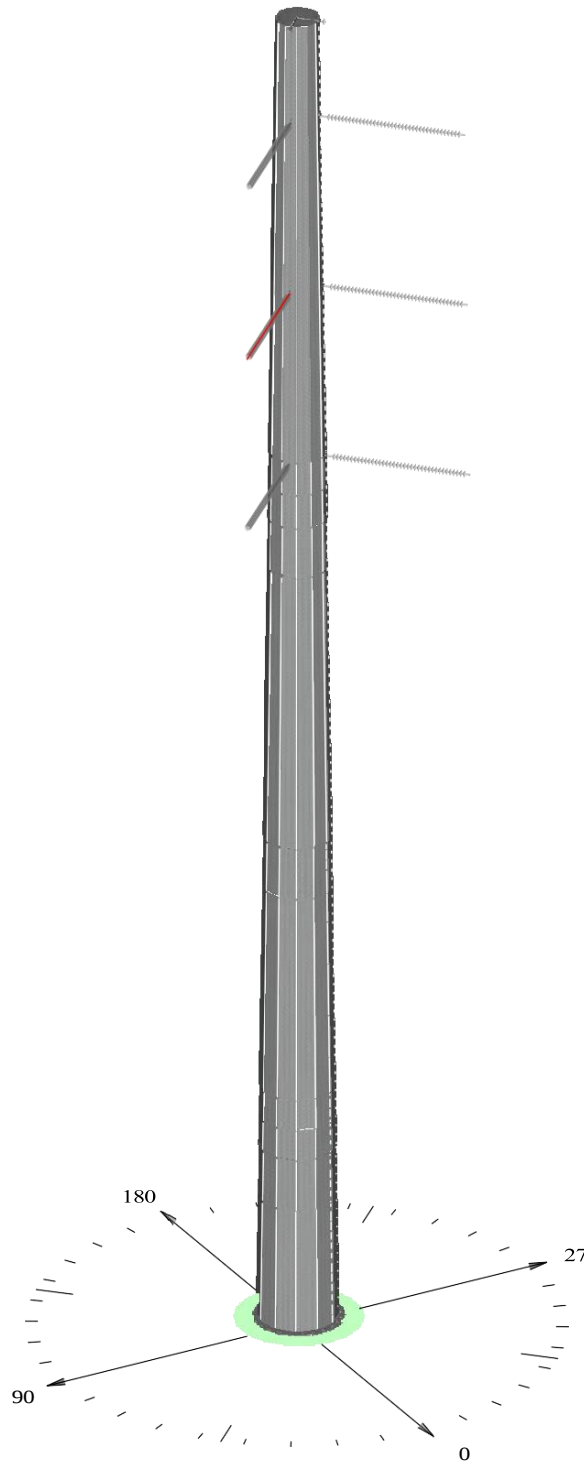

FIGURE G-14
- Figure G-14: Double-Circuit 230 kV Tubular Steel Structure (Pole) with 69 kV Underbuild, Standard Configuration with Post Insulators